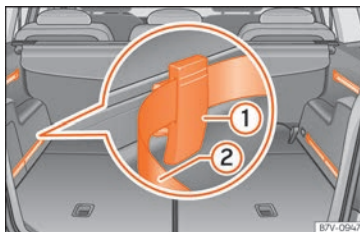

Fig. 173 In the boot: system including rails, adjustable attachment elements ① and adjustable tightening straps ②.
- Fit the attachment element with the ruts facing upwards »» Fig. 173 ① to the upper part of the guide and press downwards.